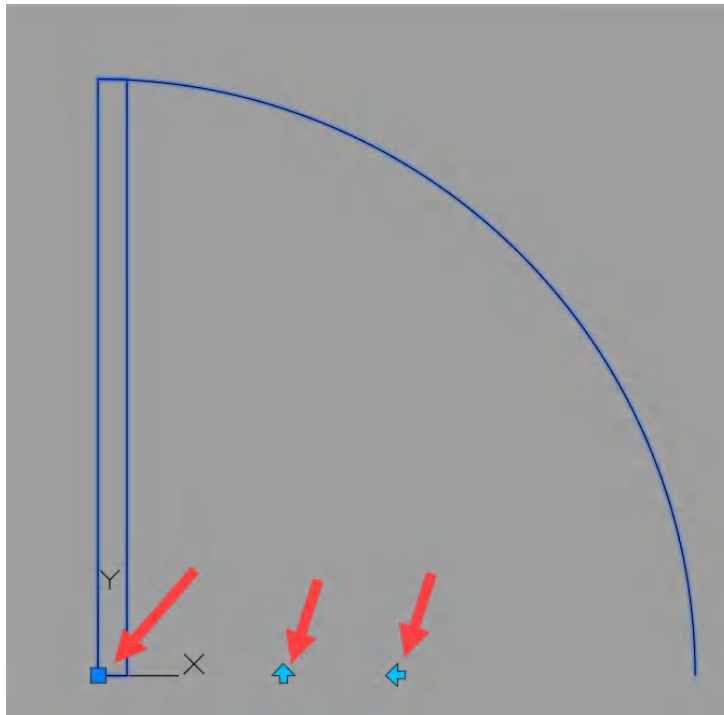

Figure 11.27: The dynamic door block shown selected in the test area
13. You are taken to the testing area after clicking **Test Block**. Click on the door block to select it. You will see the two *flip grips* and the lower-left grip. The lower-left grip was created using the **Basepoint** parameter. *Figure 11.27* shows the dynamic door block selected in the test area.